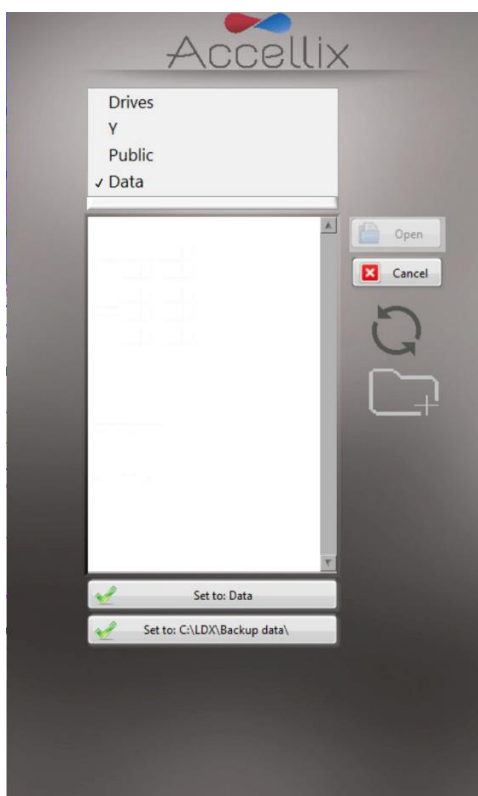

Figure 31: Set Data Destination Configuration screen
- The copy destination is selected in the **Destination Location** function (Figure 31).
Tapping the folder icon displays the **Set Data Destination Configuration** screen (Figure 31):